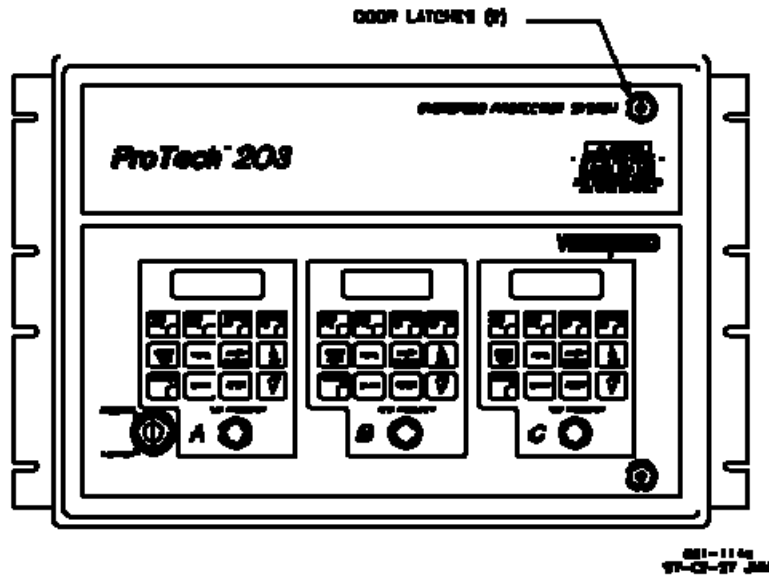

Figure 5-1. ProTech System Front Door
2. To open the front door, turn the two door latches (counterclockwise) see (Figure 5-1).
2. To open the front door, turn the two door latches (counterclockwise) (Figure 5-1).